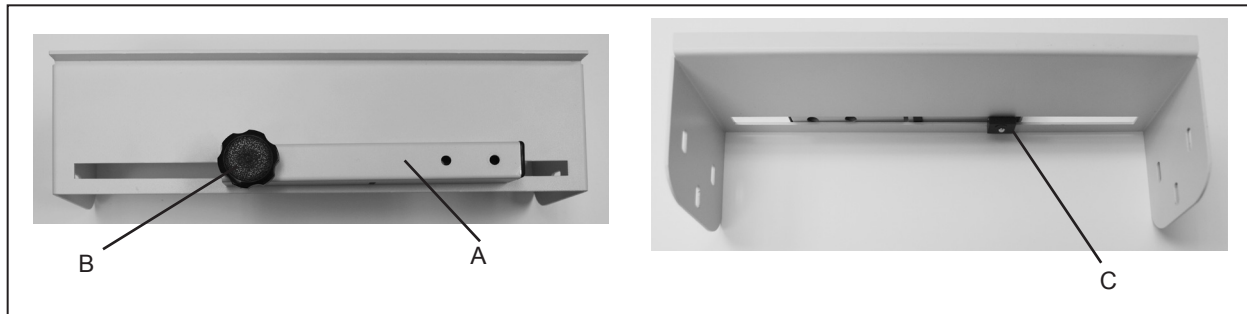
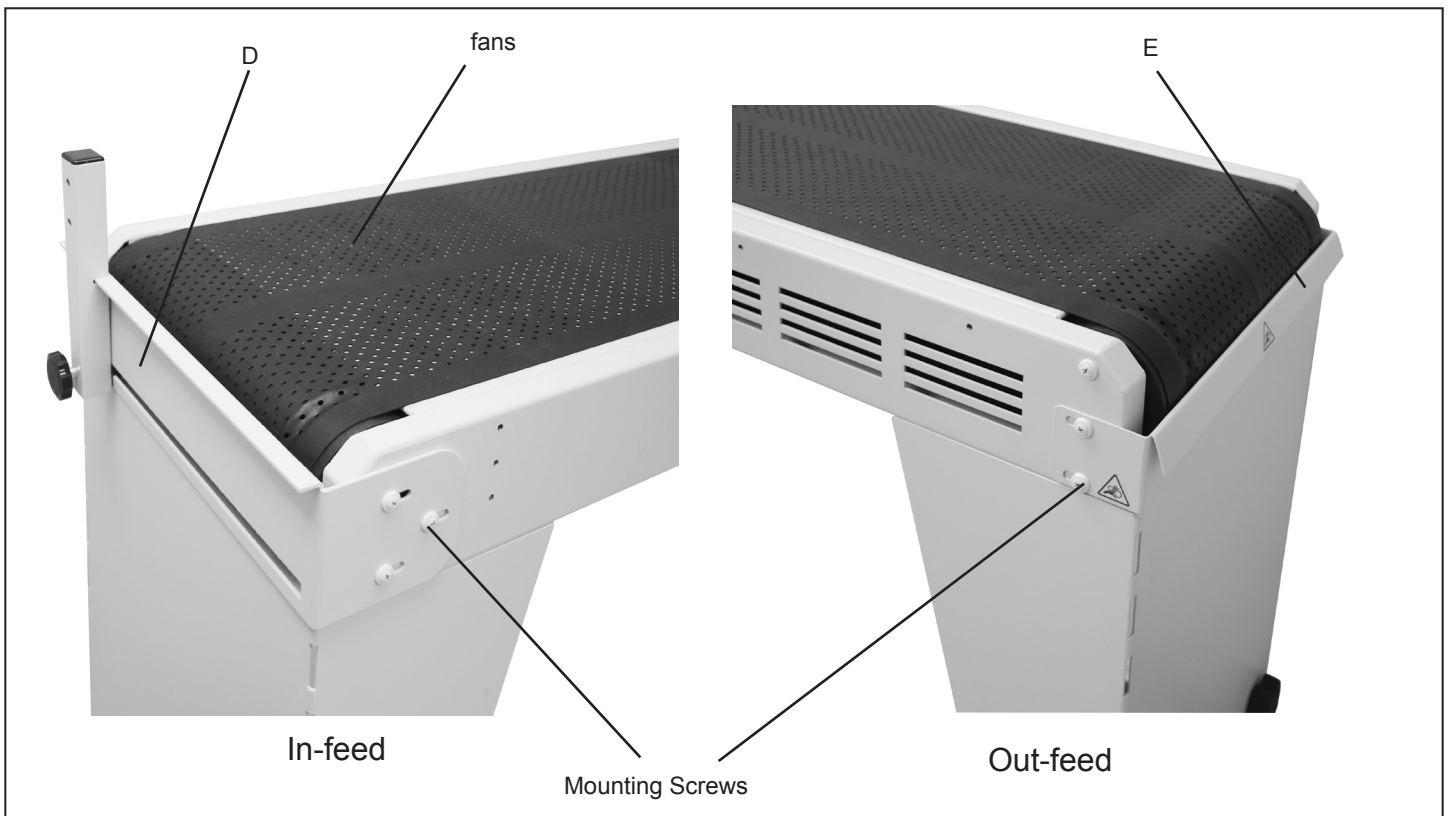

Fig 6
Fig 7
- 1 Envelope knockdown bracket assembly (Fig 6): To install, temporarily mount the envelope knockdown post (Fig 6 item A) in the down position, as shown below. Use thumb screw and securing plate (Fig 6 items B & C) to attach the post to the bracket.
2. Mount envelope knockdown assembly onto the in-feed of the conveyor (Fig 7 item D) using 6 each white Phillips head machine screws provided in accessory bag. NOTE: The suction fans are located at the in-feed of the conveyor. Loosen knockdown post thumb screw (Fig 6 item B) and rotate post 90 degrees into an upright position (Fig 7).
3. Mount the outfeed bracket (Fig 7 item E) to the opposite end of the conveyor using the 4 white phillips head machine screws. Do not completely tighten screws. Continue to step 4 for bracket adjustment.